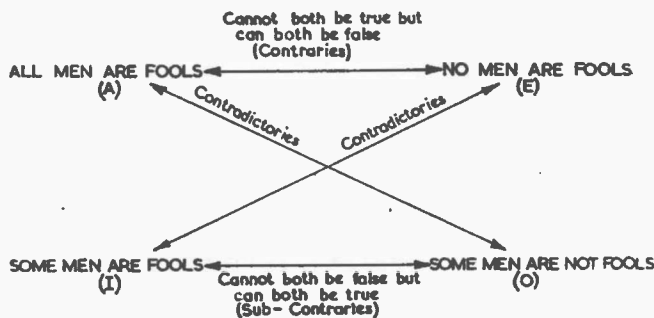

Fig. 1. Contraries, sub-contraries and contradictories
Consider Fig. 1. It will be readily seen that (A) and (E), though they cannot both be true, do not satisfy the definition of contradictories because they can both be false (if some, but not all, men are fools). They are said to be in *contrary* relationship to each other.